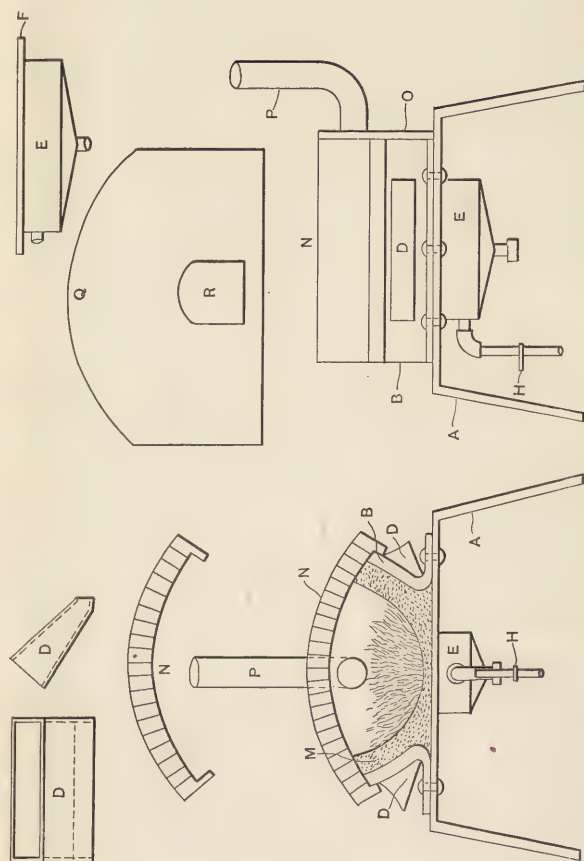

Fig. 3. Furnace for High-speed Steel.
**Hardening Milling Cutters and other Expensive Tools.**—For heating high-speed milling cutters and other similar tools having delicate cutting edges, about the best arrangement is a furnace built on the order of the one in Fig. 3, in which the two lower views are the front and side elevation and the upper views show details. To construct the furnace, make a foundation *A* from cast iron of the required size. Then take two pieces of boiler plate  $\frac{1}{2}$  inch thick and bend like *B* and rivet to the top of the foundation. The tuyere *E* is made of cast iron or light boiler plate. There